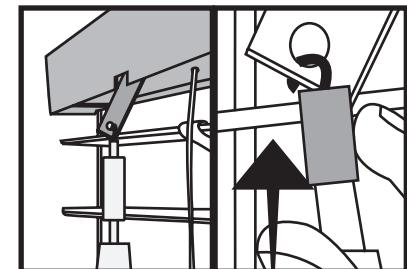

Figure 3; Hook
Mount your SMART WAND™ (A) [Fig. 3] by connecting or inserting the SMART WAND™'s slat ATTACHMENT HOOK (a) to your blind's tilt gear stem. Carefully push up the plastic RETAINING SLEEVE (c) [Fig. 3.1] to secure the connection. Now rotate the SMART WAND™ (A) until the two SENSOR SWITCHES (d) & (e) are in front or facing into the room.